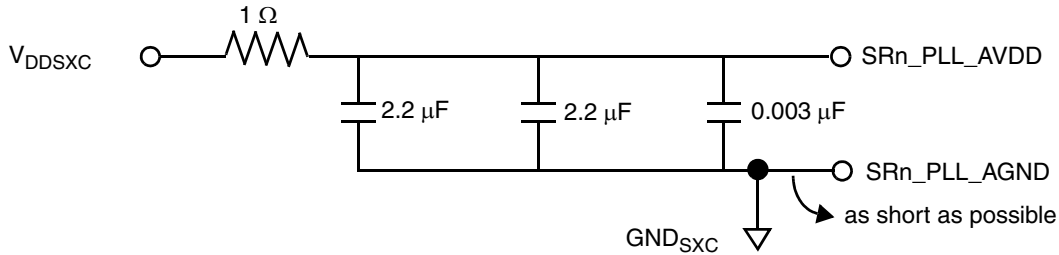

Figure 38. SerDes PLL Supplies
- Couple inputs SR1_PLL_AVDD and SR2_PLL_AVDD with SXCVDD1 and SXCVDD2 power rails, respectively, using an RC filter (see Figure 38).
Each SerDes PLL power supply must be filtered using a circuit similar to the one shown in Figure 38, to ensure stability of the internal clock. For maximum effectiveness, the filter circuit should be placed as closely as possible to the SR_n_PLL_AVDD ball to ensure it filters out as much noise as possible. The ground connection should be near the SR_n_PLL_AVDD ball. The 0.003 μF capacitor is closest to the ball, followed by the two 2.2 μF capacitors, and finally the 1 Ω resistor to the board supply plane. The